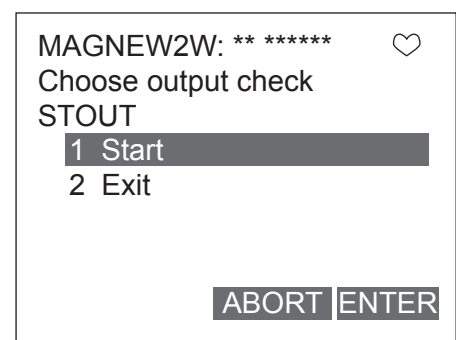

Figure 7-73
2. Figure 7-73 will then appear. Choose START to start fixed value of contact output, and then press F4 (ENTER)